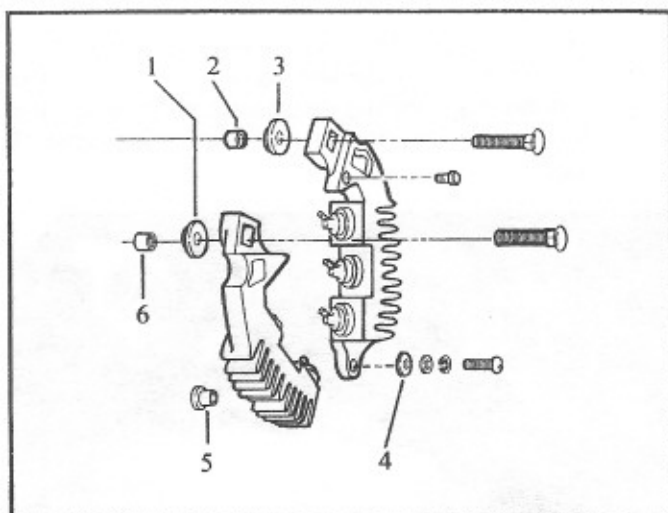

Figure 17
- 1.5 Inspect all insulation washers and bushings including the bushings inside the output terminal holes. Item Nos. 1, 2, 3, 4, 5, and 6. Fig. 17.